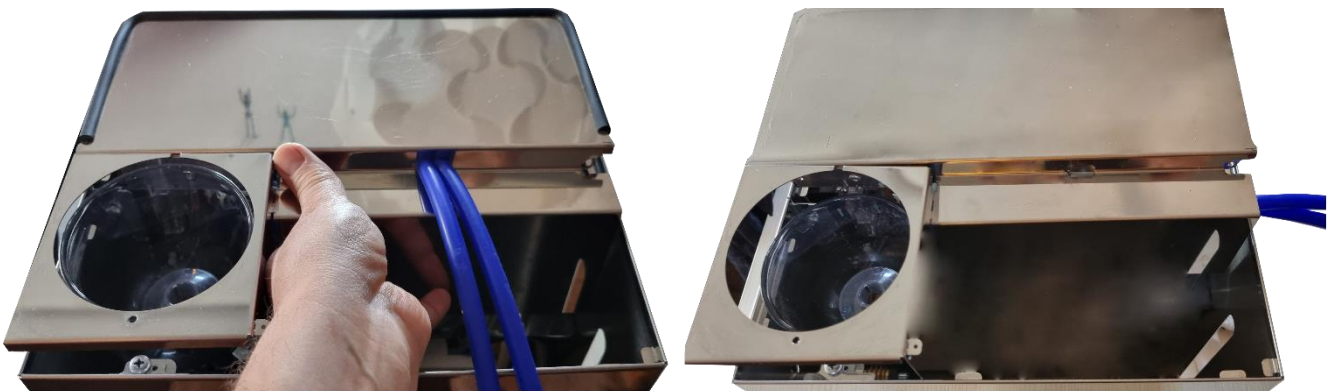

Fig. 1.2
- To remove the upper case, you need to push the 2 hoses inside about 5 cm, then start pulling out the cover. Once the cover starts to lift and you can access the interior, completely remove the 2 hoses from the hole. Then remove the lid completely. (fig. 1.2)